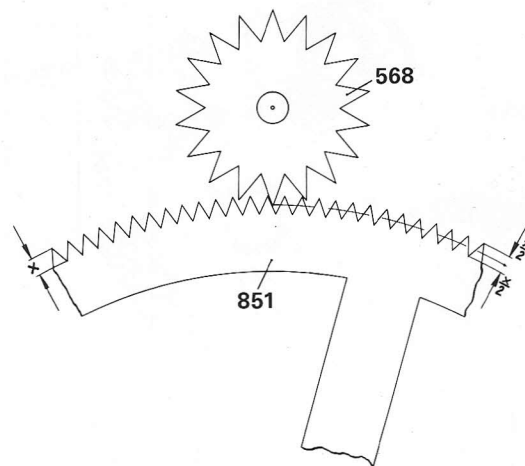

Fig. 19
- Check the penetration of the oscillating pinion 568 teeth with the chronograph wheel 851, see fig.19 (eccentric 482).
- Check the depth of the gearing between the chronograph runner 851 and the oscillating pinion 568. The depth is regulated by means of the clutch banking-eccentric 482, v. fig.19.